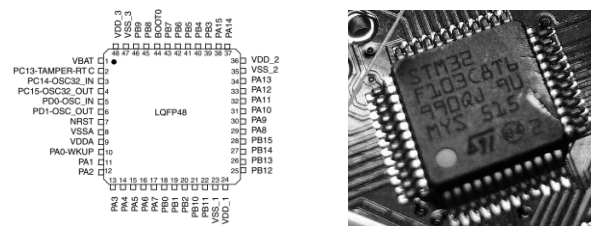
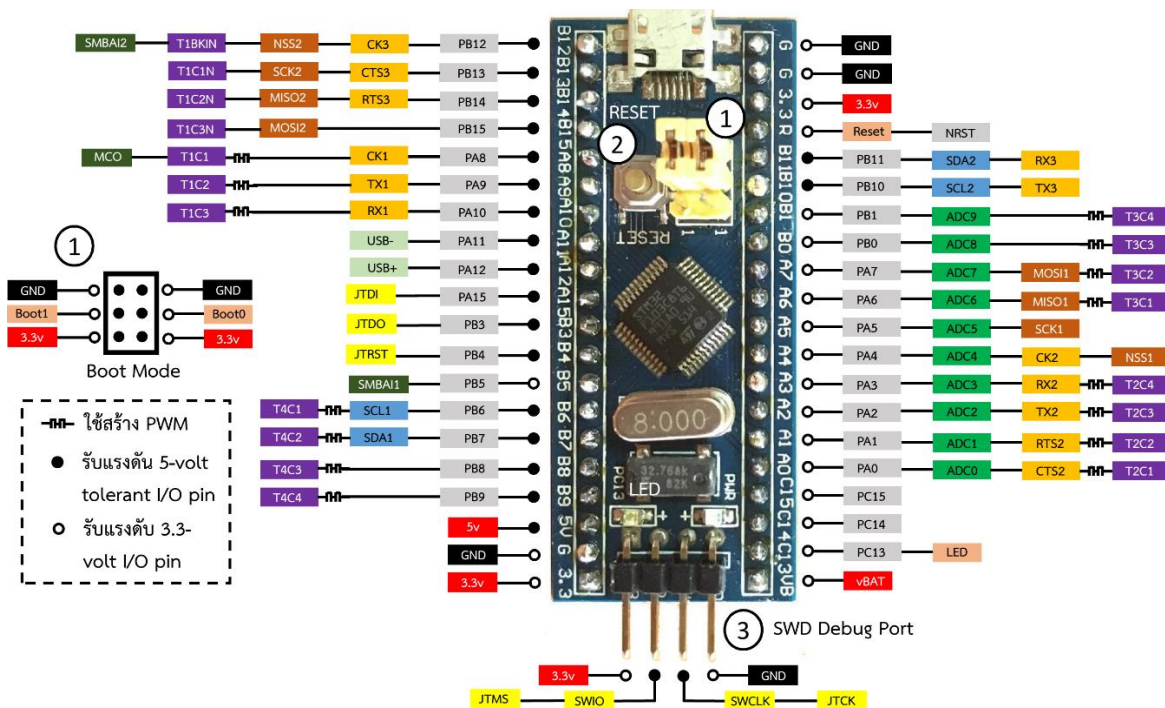
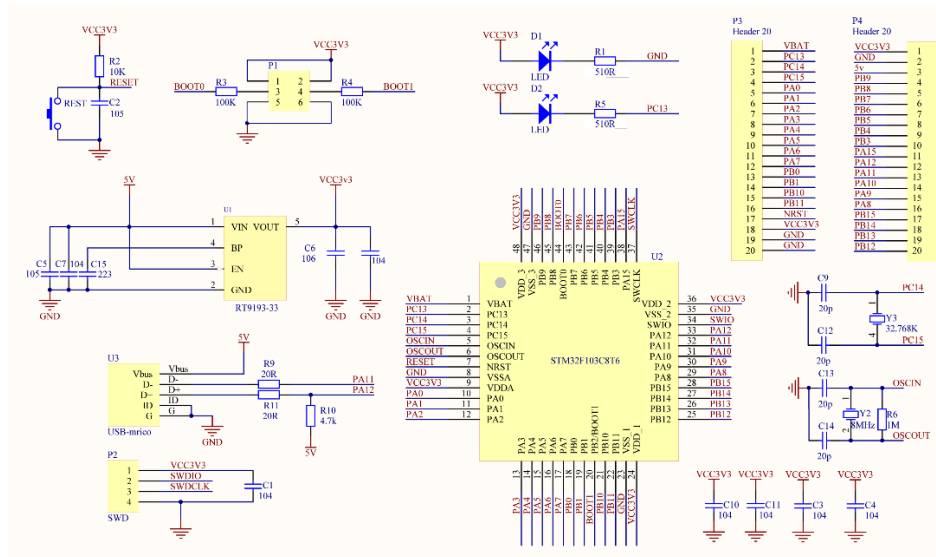

Figure 1. STM32F103C8T6
Figure 2. Blue-pill pins out.
Figure 3. Blue-pill schematic.
Blue-pill is the barebone development board consists of STM32F103C8T6 IC as the main microcontroller. The controller uses LQFP48 surface mount package which has 48 pins as shown in Figure 1. Basically, the Blue-pill is the extension of the controller pins as shown in Figure 2 with the addition of basic requirement circuit such as Mode selection (1), Programmer interface pins (3), onboard LED, power system and crystals. The Blue-pill schematic is shown in Figure 3.